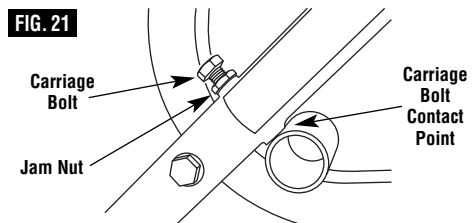

FIG. 21
1. Using a wrench, loosen the jam nut on each side of the stand, one quarter turn only (figure 21).